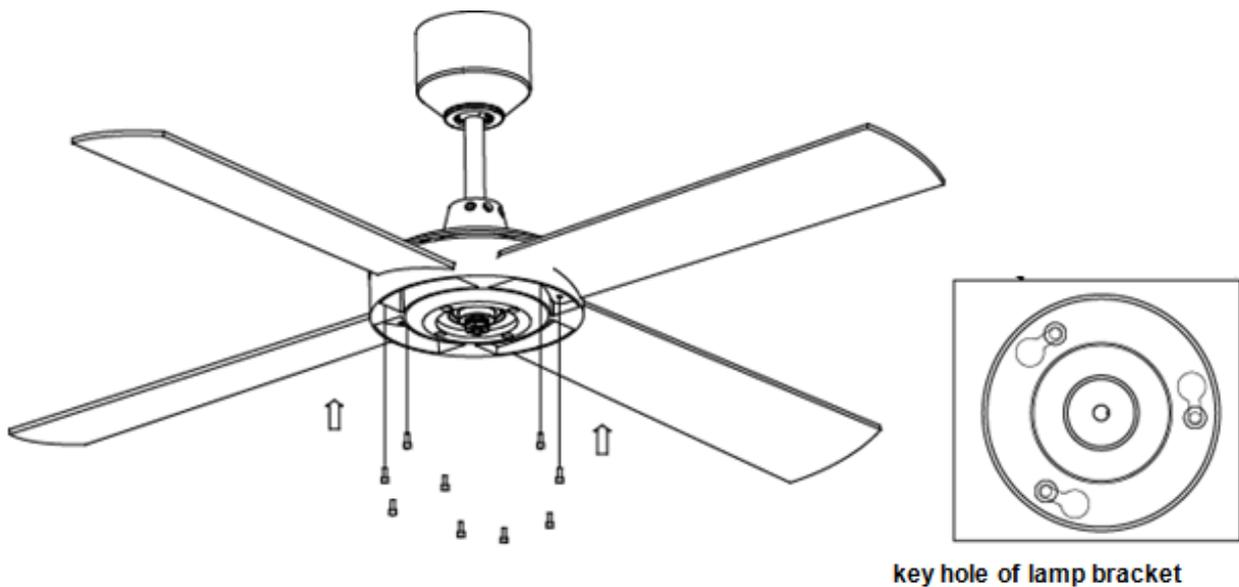

Fig.6
7. Insert the blades through the side slot of the motor and align with the 3 holes. If the holes do not align, the blade is upside down. The blade should fit securely and the screws should slot into the blade screw holes. Insert the screw driver with screw through the key hole of lamp bracket. Secure the blades with 3 blade screws, and ensure that the 3 blade screws are tightened at the same time. Ensure all screws are tightened evenly to reduce chance of warping or unbalancing. Repeat this process for all blades. **Fig.6**